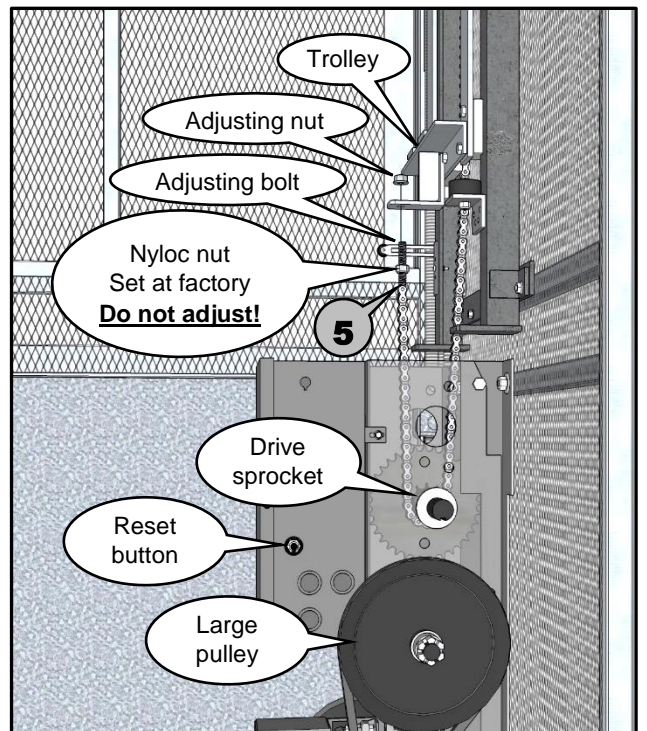

Figure 12
- 5** The other end of the chain should hang down behind the trolley and be placed around the drive sprocket of the motor. Then insert the threaded adjusting bolt, on the end of the chain, into the hole on the bottom of the trolley, where the adjusting nut is tied on, and use the adjusting nut to secure the adjusting bolt to the trolley. Use a blade screwdriver or needle nose pliers to hold chain from twisting and tighten adjusting nut until Nyloc nut is tightly seated against trolley. **Do not adjust Nyloc!** (see Figure 12)
NOTE: If the adjusting bolt won't reach, turn large pulley (see Figure 12) to take up any slack in the chain.
- 7** Cut black plastic tie, next to the drive sprocket, off. **(see Figure 12, for sprocket location)**